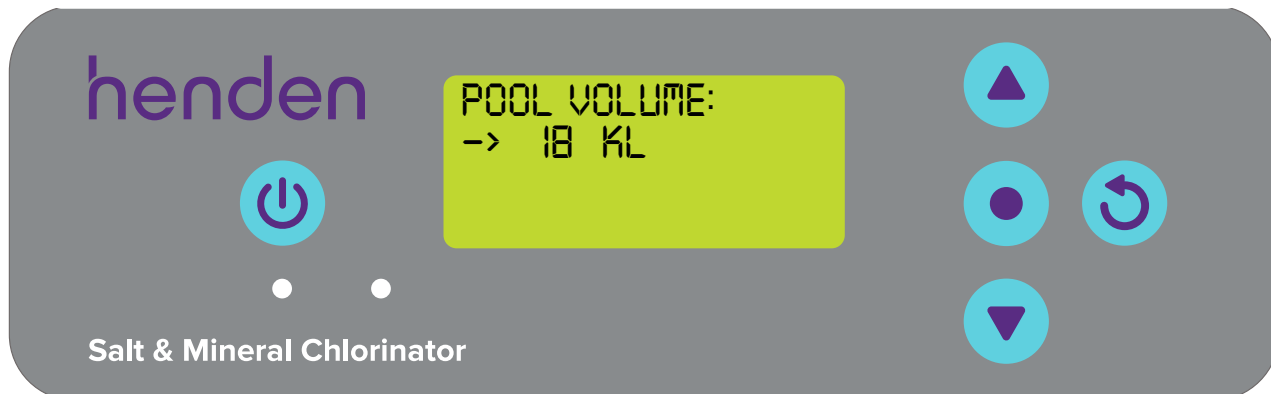

Figure 6.5
- The next screen shown is the **POOL VOLUME** menu (refer Figure 6.5)